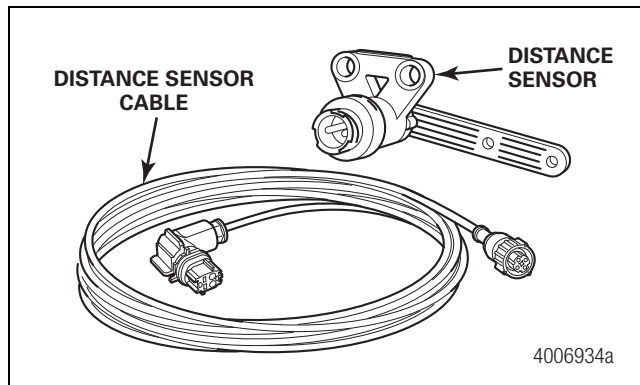

Figure 18
- C. Insert the Distance Sensor Cable into GI/O #1 on the RSS ECU and connect it to the Distance Sensor. Figure 18.